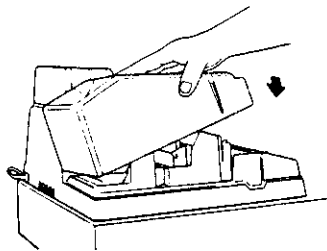

Fig. 4
5. When replacement is completed, attach the Paper Cover (Fig.4) and turn the Mode Lock to the "REG" position.
5. When replenishing of ink is completed, attach the Paper Cover (Fig.4) and turn the Mode Lock to the "REG" position.